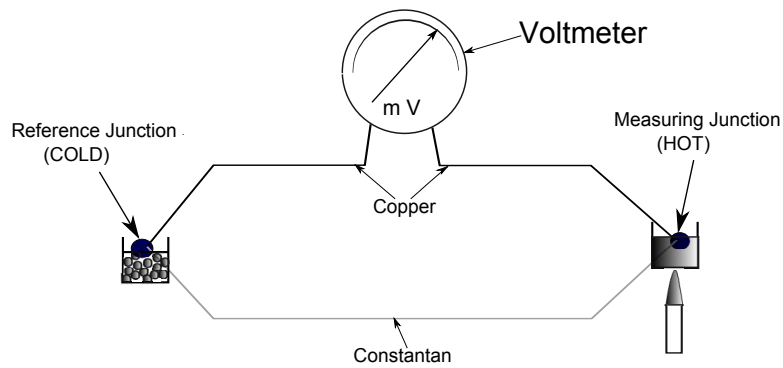

Figure 1: Thermocouple
When two dissimilar conductors such as copper, and its alloy, constantan (55% Copper and 45% Nickel) are joined together (see FIG.1) and their two junctions are maintained at two different temperatures say one hot and the other cold, a thermo-emf flows through the circuit. This can be observed using a voltmeter connected across the circuit. This effect is known as Seebeck Effect (after Seebeck, 1831).
1. A thermocouple can be calibrated approximately using a two-point calibration. The thermocouple junctions and leads are connected as shown in the Fig.1